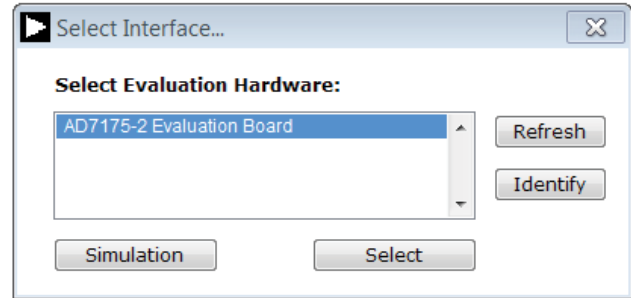
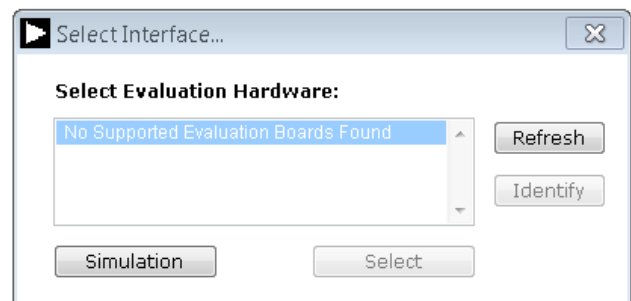

Figure 13. AD7175-2 Evaluation Board Selection
Figure 14. Evaluation Board Selection, No Board Connected
2. The dialog box in Figure 13 appears, select **AD7175 Evaluation Board**. The main window of the software box displays as shown in Figure 16.
3. If the **EVAL-AD7175-2SDZ** evaluation system is not connected to the USB port via the **SDP-B**, when the software is launched the **Select Interface** dialog box appears (see Figure 14). Connect the evaluation board to the USB port of the PC, wait a few seconds, click **Refresh** and the option shown in Figure 13 appears.
The Evaluation Mode indicator displays the current evaluation mode. To switch between modes, click the **Select Product** button and the dialog box shown in Figure 13 appears.